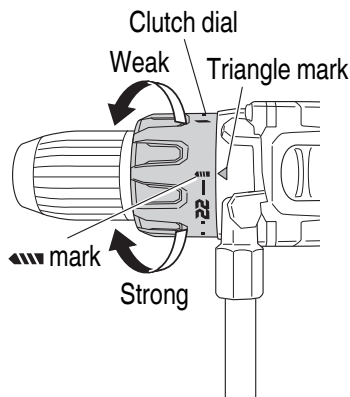
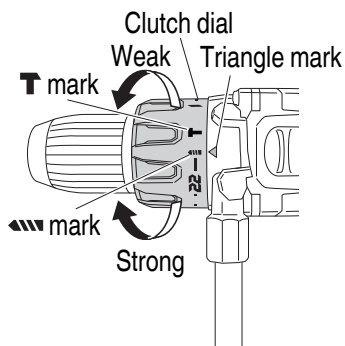

Fig. 11
Fig. 13
## 7. Confirm the clutch dial position (See Fig. 11)
&lt;DV18DBL2&gt; (See Fig. 13)
- (2) Tightening torque indication (See **Fig. 11, Fig. 13 on page 37**)
- (3) Adjusting the tightening torque (See **Fig. 11, Fig. 13 on page 37**)